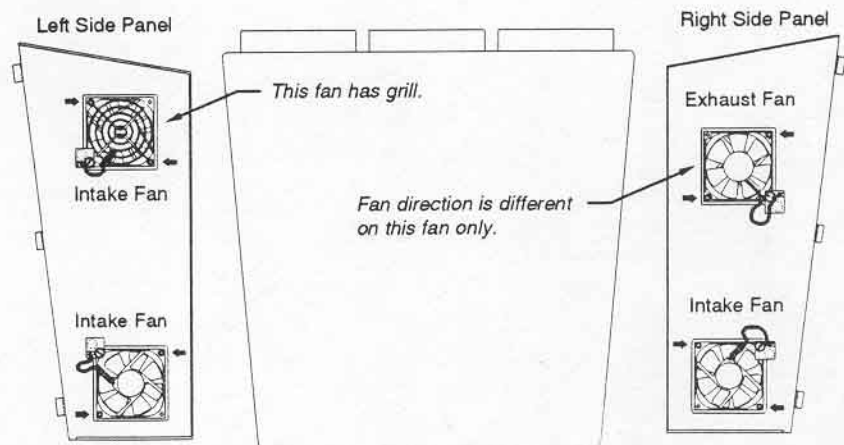

Figure 5-5. Ventilation Fans
- d) Each side panel contains two cooling fans as shown in Figure 5-5. To remove a fan, unplug the harness at the fan then unscrew the two securing screws.